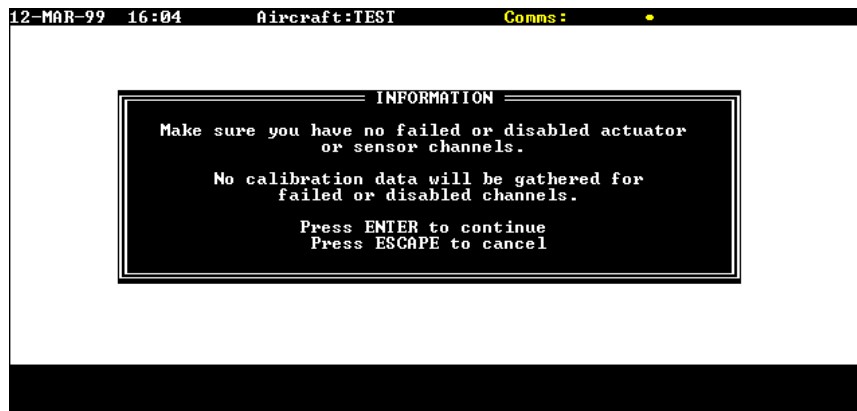

Figure 3.23 - Calibration 'Information' screen 1
(2) Calibrating ATVA Systems
- (b) The 'Information' screen that follows will be shown on the MT display (Ref. Figure 3.23). If you have any disabled or failed actuator or sensor channels do not begin a calibration. Calibration Data will not be gathered for failed or disabled channels. The system will fail when disabled or failed channels are repaired and there is no calibration data available for those channels.